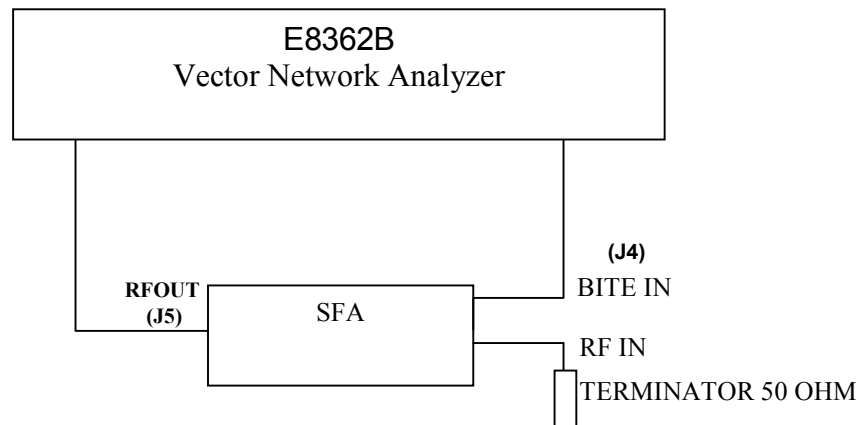

FIG 3: Test set-up for Gain Measurement
1. Make the interconnections as per the set-up shown in the Fig.3.